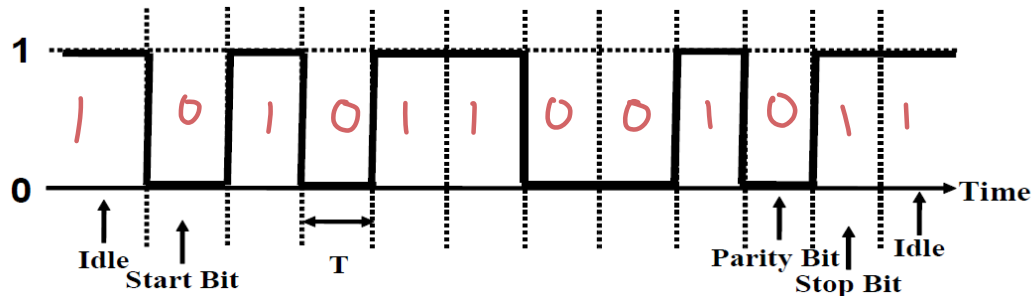

Fig. 2
2) Fig. 2 shows the logical waveform of an asynchronous data frame.
Answer the following question with reference to Fig. 2:
- The value of T in Fig 2.  *$1/9600 \times 10^3 = 0.104 \text{ ms}$*
- Assume the baud rate of the transmitter is 4800, but the baud rate of the receiver is configured as 9600. Based on Fig. 2, determine, if any, the ASCII character(s) that will be received.